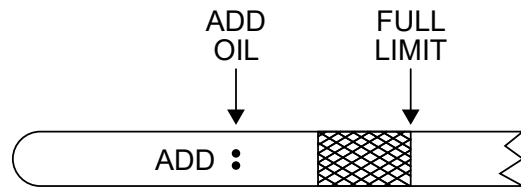

Figure 6. Engine Oil Level
3. Reinsert the dipstick back into its holder, then remove it again. Check the oil level (Figure 6) shown on the dipstick.